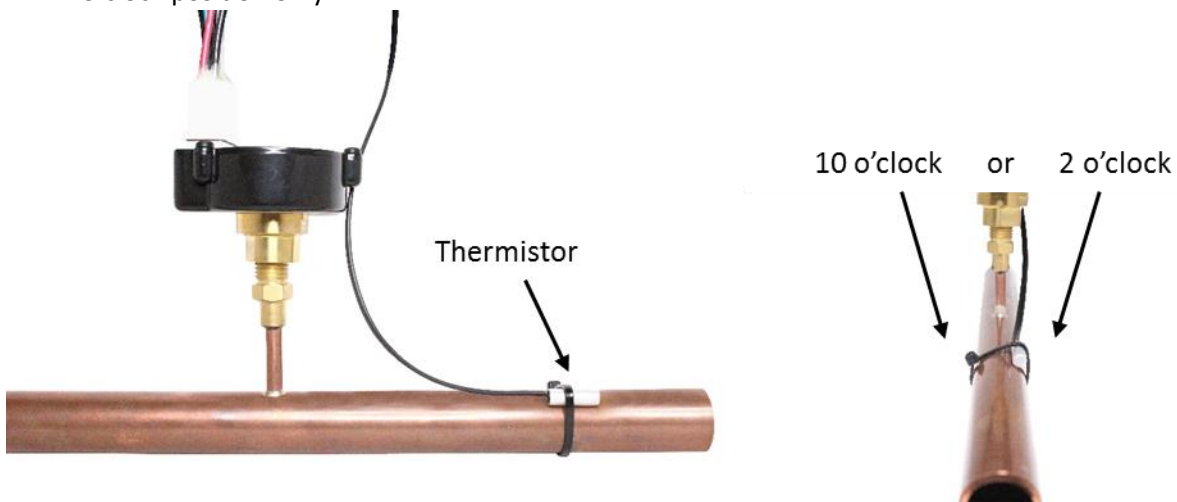

Figure 2-8 Thermistor installation at evaporator outlet
- 10.** Install the thermistor at the outlet of the evaporator and close to the access fitting using a zip tie, as shown below in **Figure 2-8**. The thermistor should be located at either the 10 o'clock or 2 o'clock position only.